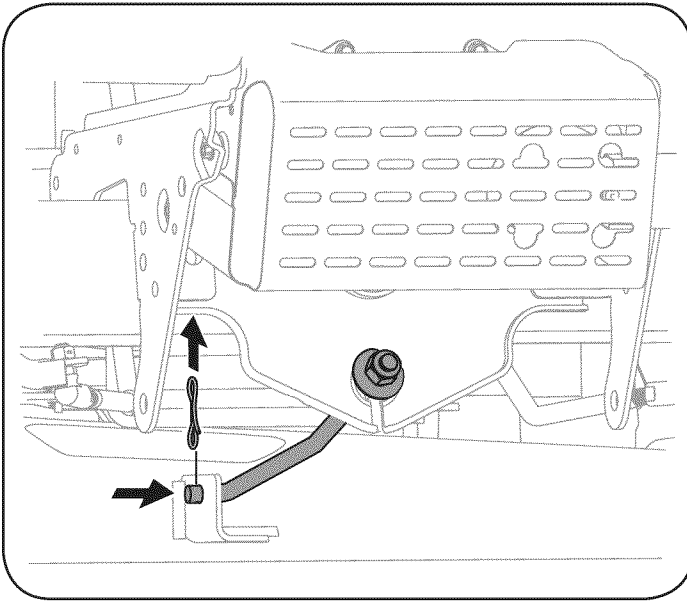

Figure 17
8. Remove the bow-tie cotter pin securing the deck stabilizer rod to the deck. Slide the deck lift rod from the mounting bracket on the deck as shown in Figure 17.